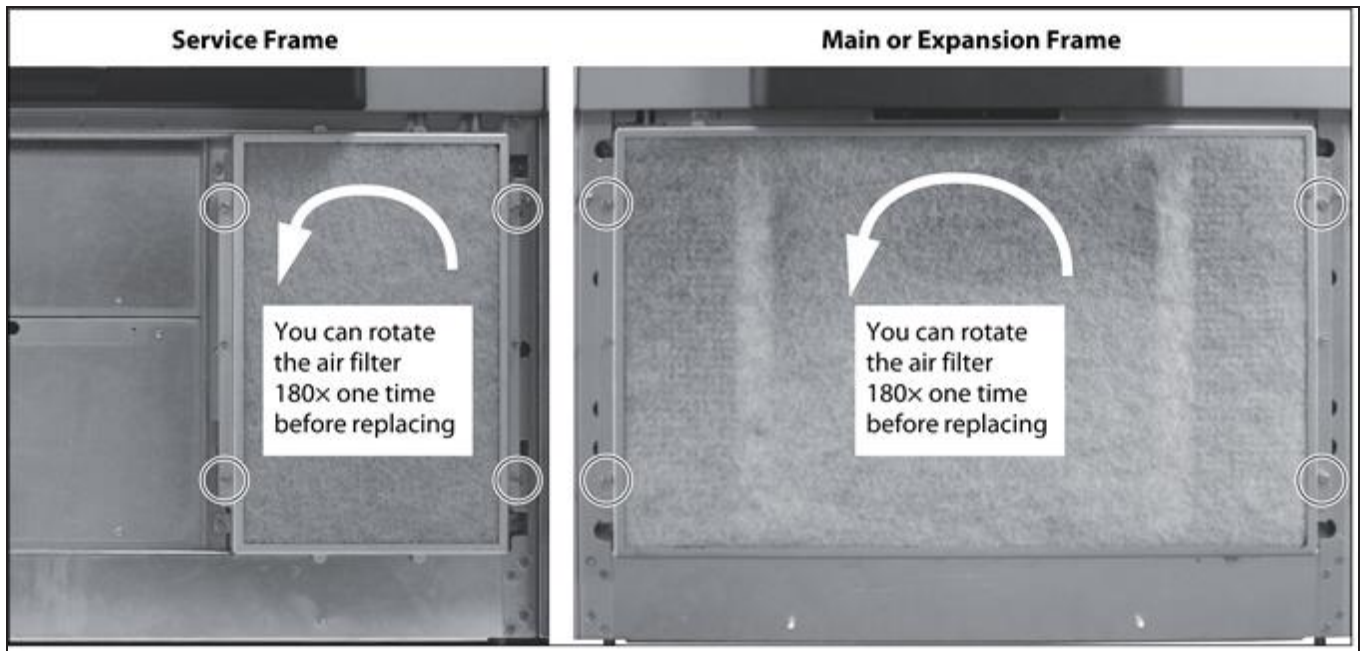

Figure 284 Loosen the four captive screws that secure the air filter to the frame.
3. Use the appropriate screwdriver to loosen the four captive screws on the air filter (circled in Figure 284).
- If the filter was not previously rotated, rotate it 180°, top to bottom (see Figure 284 on page 493).
6. Use the appropriate screwdriver to tighten the four captive screws to secure the filter to the frame (see Figure 284 on page 493).